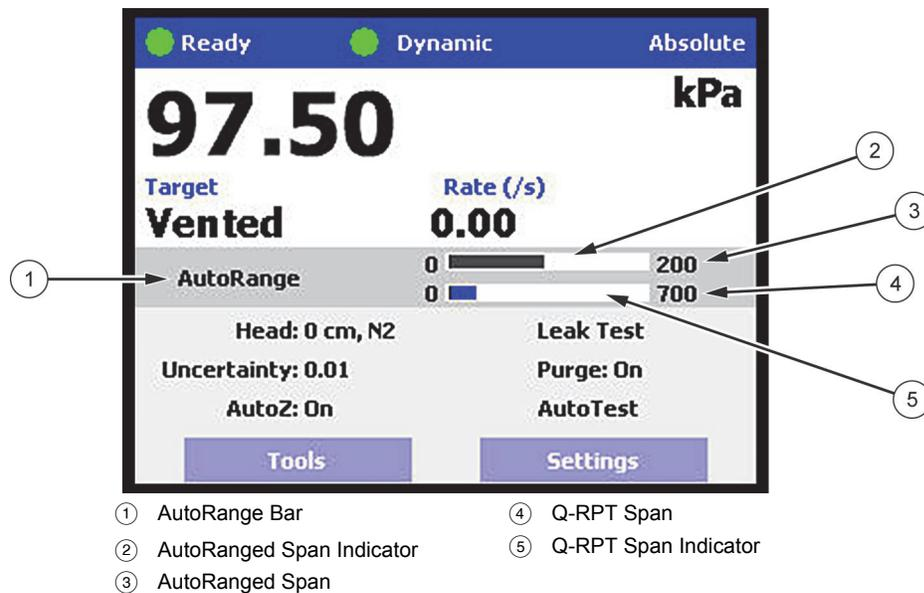

Figure 14. AutoRange Bar
- To verify or confirm the range from the Main Run Screen, use [AutoRange] from the Main Run Screen and view the Range field to view the active range (see Section 3.2.8) or view the AutoRange and active Q-RPT spans and indicators from the AutoRanger bar on the main run screen (see Figure 14).
The AutoRange Bar in the middle of the PPC4 Main Run Screen displays the range and a graphical indicator of the measured pressure within the range for both the active AutoRanged Range and the active Q-RPT (see Figure 14, showing a 200 kPa AutoRanged Span on a 700 kPa Q-RPT).